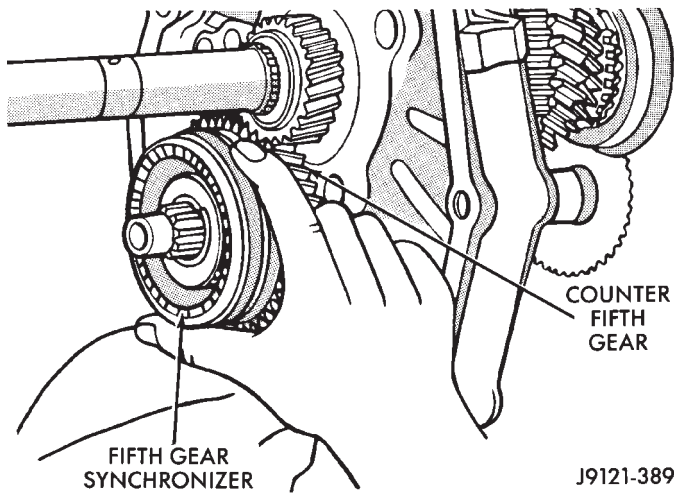

Fig. 70 Fifth Gear And Synchronizer Installation—AX 5
(26) On AX 5, install assembled gear and synchronizer on counter shaft (Fig. 70).